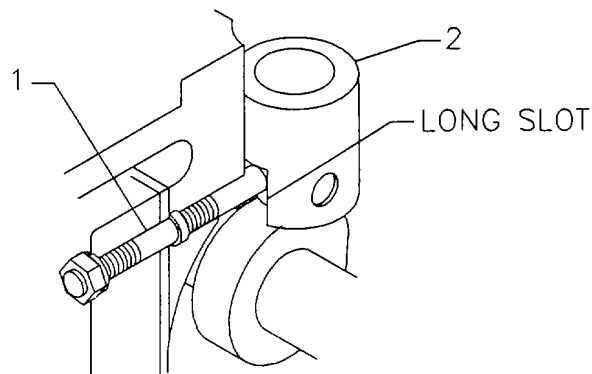

Figure 6-6. Fuel Pump Tappet.
If more than one fuel pump is being replaced take extreme care to ensure that each shim pack is kept with its relevant pump. Do not remove or add shims to this pack. Do not remove the tappet stud (1, fig. 6-6)) under any circumstances.
Before installing fuel pump the governor stop/run lever must be correctly adjusted if the governor has been removed or is known to be out of adjustment. Refer to paragraph 6.5. If the fuel pump tappet (2, fig. 6-6) has been removed. It must be replaced with the longer slot facing outwards to ensure that it is correctly located over the end of the stud (1, fig 6-6).
- 4) Remove the flywheel locking tool and while pressing down on the top of the fuel pump tappet (2, fig. 6-6) slowly rotate the crankshaft until the fuel pump tappet (2, fig. 6-6) is felt to be at its lowest position.